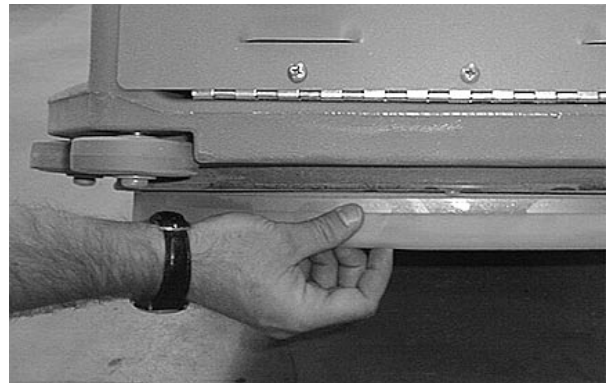

FIG. 26
4. Check condition of dust skirt, replace if worn (Figure 26).